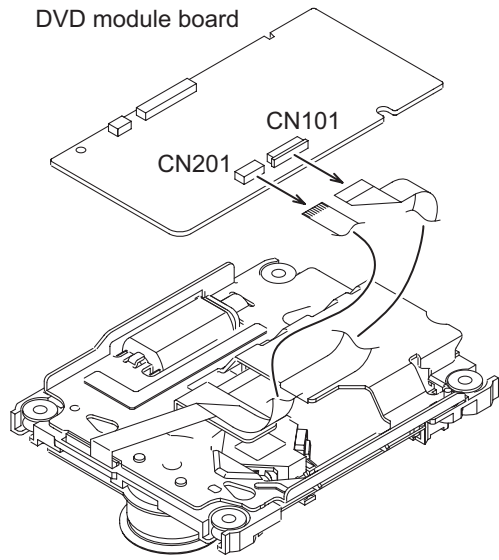

Fig.6
- (6) Disconnect the card wire from CN101 and CN201 on the DVD module board. (See Fig. 6)